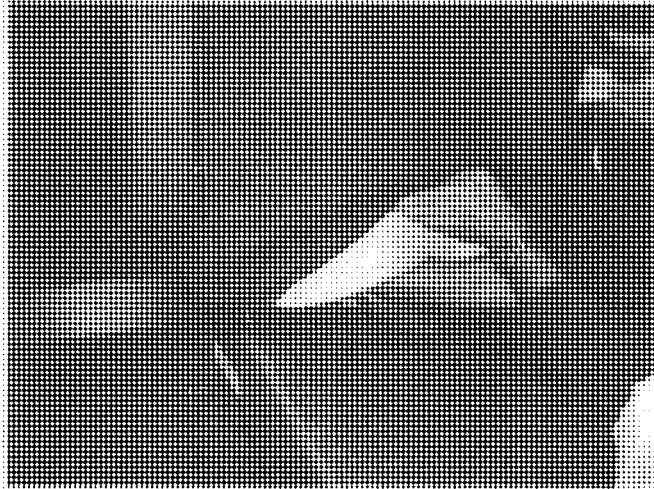

FIGURE 2.
- a. Access the armrest tube underneath the foam and seat cover, as shown in FIGURE 2.